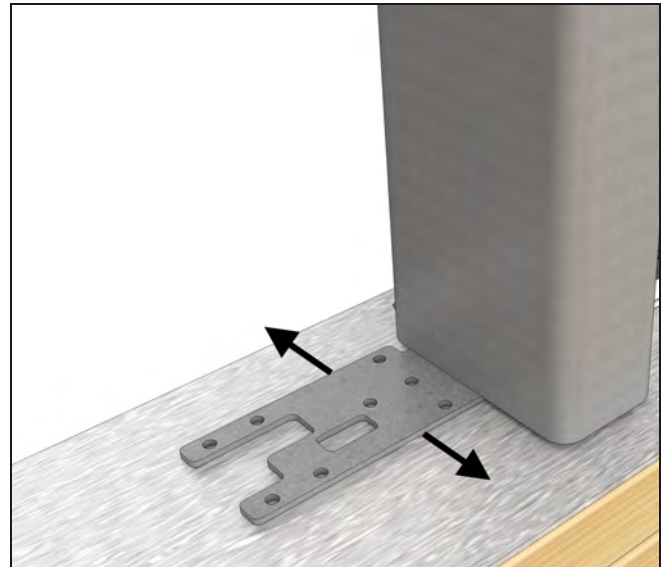
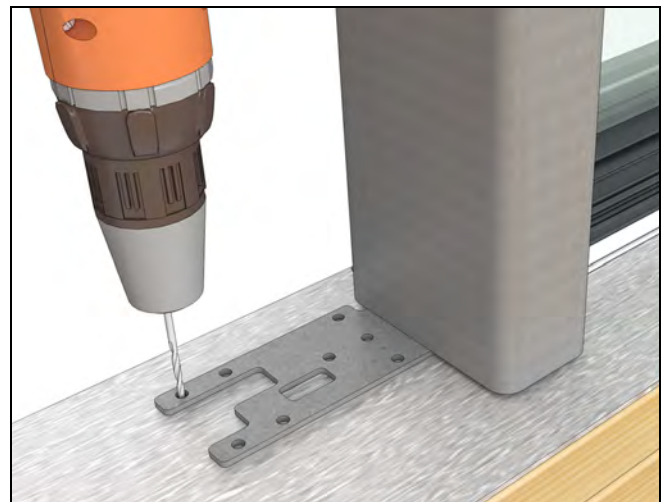
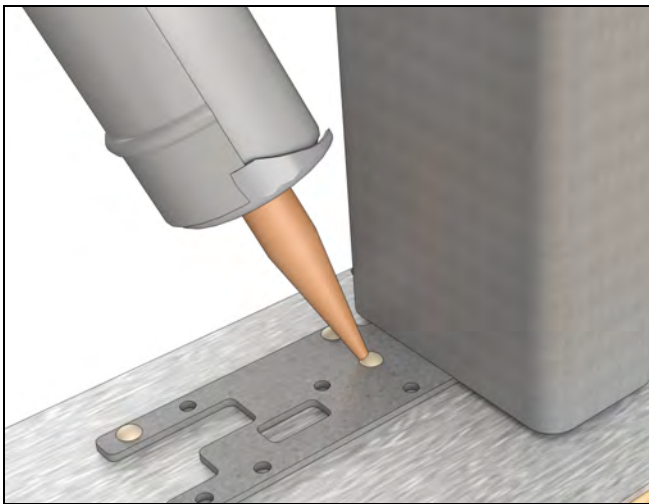

Figure 122
Figure 123
Figure 124
13. Adjust the bracket so it is square in the opening and positioned about 1/4" from the exterior step in the frame, then fasten it to the sill. Use seven #10-12 3" T20 Torx pan head 2/3 thread screws or similar depending on the sill material. See Figure 122, Figure 123, Figure 124, Figure 125, and Figure 126.